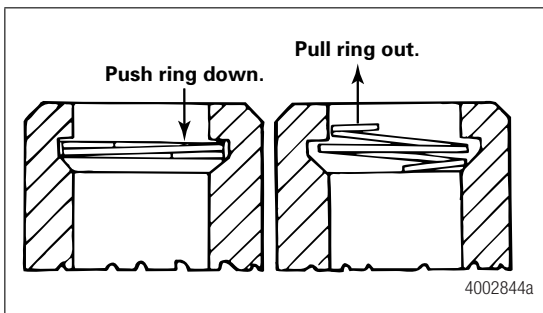

Figure 3.14
3. Use a small screwdriver to push down on one side of the piston retaining ring to force the ring out of the groove. Figure 3.14.
4. Extend the coils of the ring. Use pliers to unwind the ring and pull it out of the groove. Use a new ring when you assemble the slack adjuster. Figure 3.14.